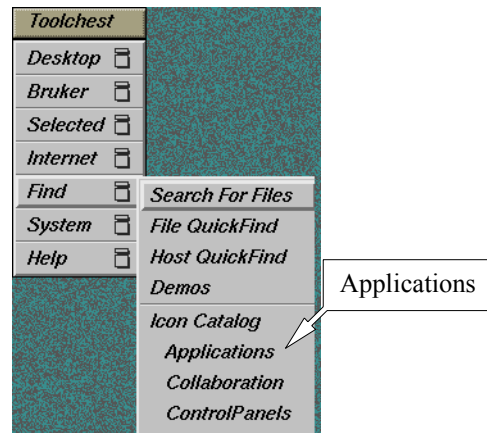

Figure 15-1 Opening the Applications icon window.
1. **Find the Xepr icon.** Click the Toolchest > Find > Icon Catalog > Applications. A window of application program icons will appear. (See Figure 15-1.)